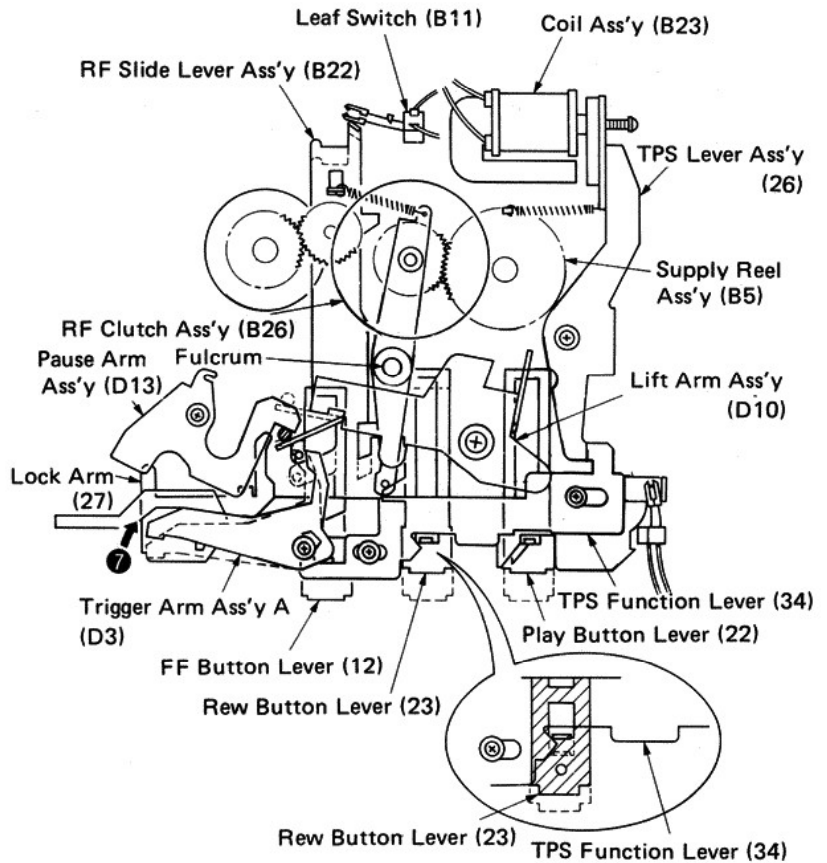

Fig. 28
● **Status Change into REW TPS Mode: (Fig. 28)**
- 4 The gear of the RF clutch assembly (B26) meshes with that of the rewind button lever (23) and the mechanism assumes the REW TPS mode. (Fig. 28)